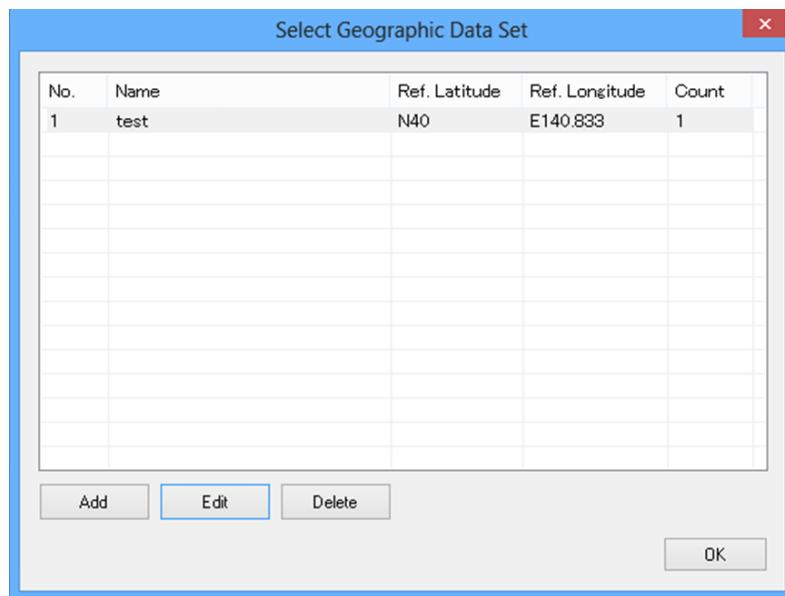
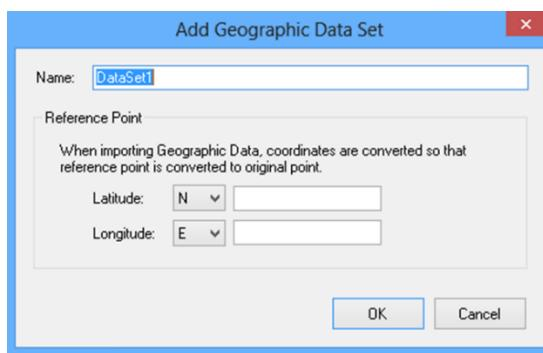
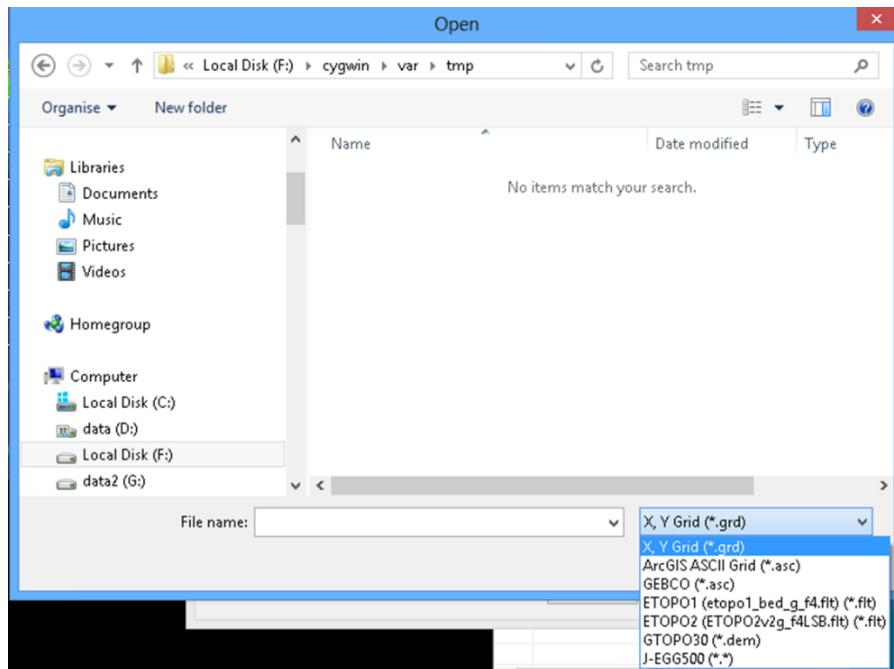

Figure 17 — Example dialog for selecting topography data sets
Figure 18 — Example dialog for adding topography data sets
Figure 21 — Example dialog for editing topography data sets
The dialog shown in Figure 17 will open. After selecting the topography data set you want to use and clicking the OK button, the dialog will close and the topography data set will load.
To add a new topography data set, click the Add (A) button on the dialog shown in Figure 17. The dialog shown in Figure 18 will open. After entering the data set's name and reference point, click the OK button. The dialog shown in Figure 19 will open. After setting conditions and clicking the OK button, the topography data will be added to the newly created topography data set.
To edit an existing topography data set, select the topography data set you want to edit on the dialog shown in Figure 17 and click the Edit (E) button. The dialog shown in Figure 21 will open. On this dialog, you can add, edit, and delete topography data. See Section 4.3 for a description of the topography data editing operations on this dialog.
To delete a topography data set, select the topography data set you want to delete on the dialog shown in Figure 17 and click the Delete (D) button.
4.2. Add Topography Data (A)